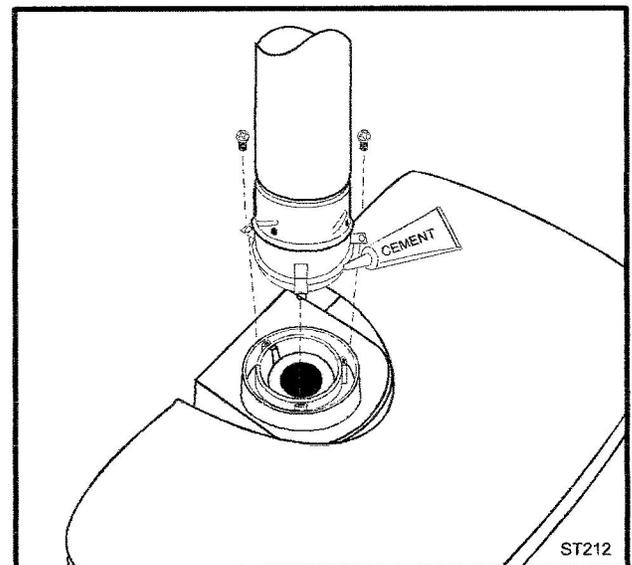

Fig. 25 Attach inner assembly to flue collar.
- Run a bead of sealant around the bottom end of the starter pipe and attach the assembly to the stove using three 1/4"-20 x 3/8" Phillips screws provided in the parts bag. (Fig. 25)